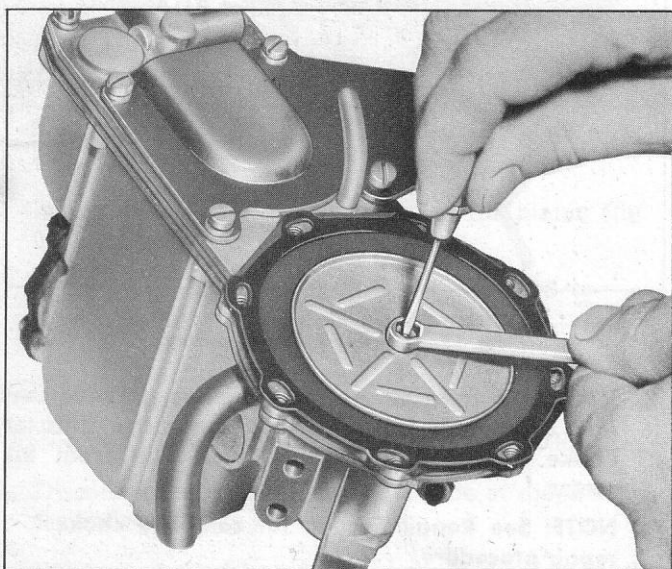

Fig. 39—Removing Diaphragm Retaining Nut
1. Remove 8 main control diaphragm cover retaining screws, remove cover and shield. Carefully remove nut retaining diaphragm to control link (fig. 39), remove diaphragm.